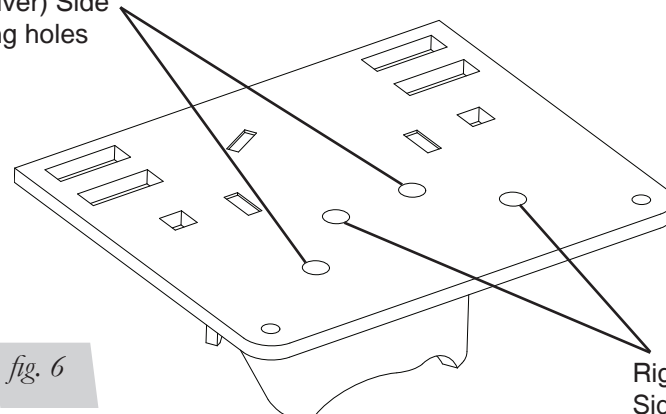

fig. 6
- The lower bracket (A) has two sets of holes (fig. 6). Attach the bellows to the bracket using the 3/8" flat washers (S), lock washers (GG) and 3/8"-24 x 7/8 bolts (W) using the corresponding holes designated. Tighten bolts securely.